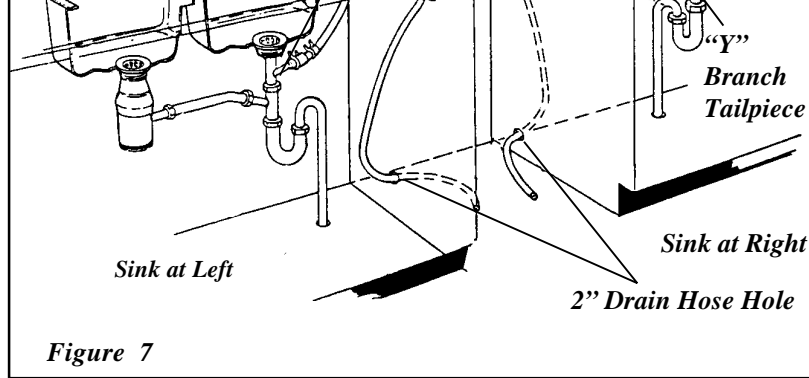

Figure 7
2. If you connect to a sink drain, entry will need to be above trap. A "Y" branch tailpiece and connector kit, not included, will make this method easier and includes all needed fittings and instructions. See Figure 7.